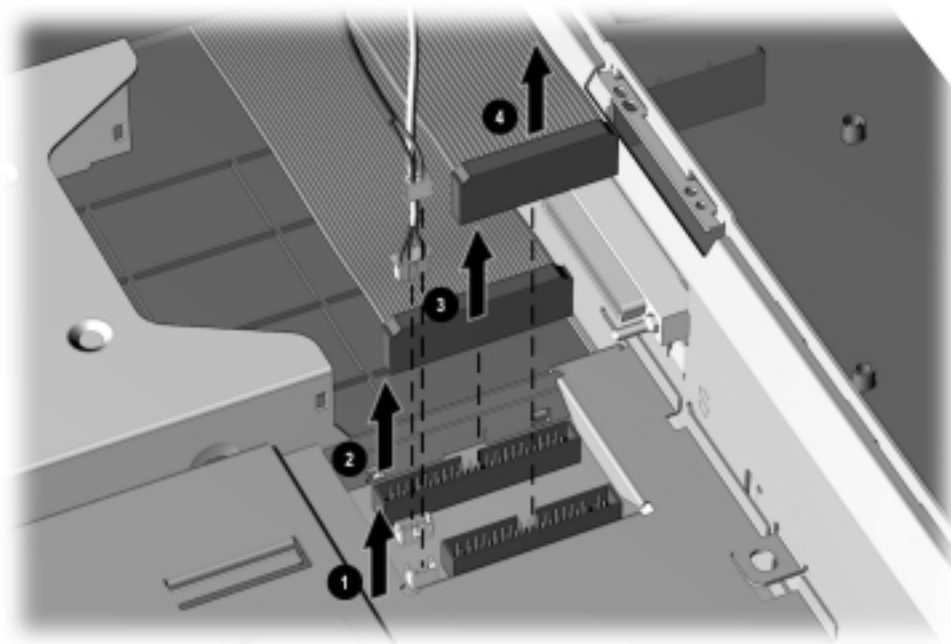

Figure 5-24. Disconnecting the Half-Height Bay and Left Speaker Cables
6. Disconnect the left speaker ❶, CD-ROM/audio ❷, hard drive ❸, and diskette drive cables ❹ from the MultiBay (Figure 5-24).